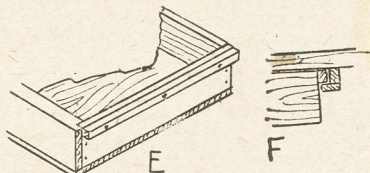

Fig. 5—The sliding tray portion
The pull-out tray, mentioned already, can be made up as at (E) in Fig. 5. The sides are rebated into the front of the tray and the back nailed between. A bottom of plywood is glued and nailed on.